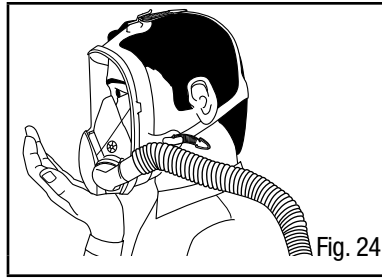

Fig. 24
1. If using the 6000 or 7800S Series Full Face Respirator, place the palm of your hand over the exhalation valve cover and exhale gently (Fig. 24). If using the FF-400 Full Facepiece Respirator, remove the exhalation valve cover and place the palm of your hand over the exhalation valve and exhale gently. If facepiece bulges slightly and no air leaks are detected between your face and the facepiece, a proper fit has been obtained.